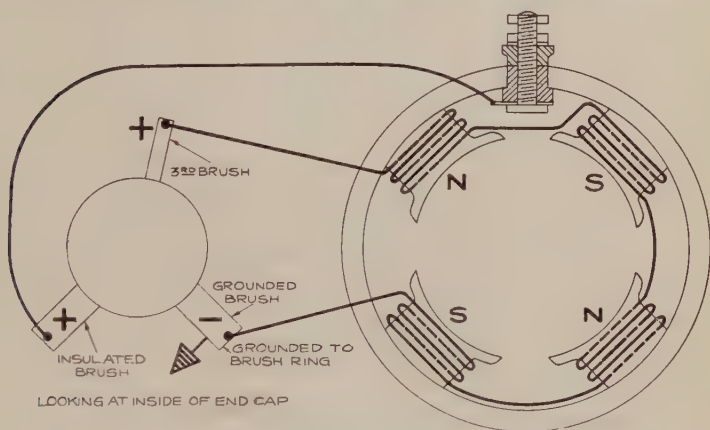

FIGURE 6.
BRUSHES. There are three carbon brushes, as shown in Figures 5 and 6. The two lower ones carry the charging current out of and into the armature. The upper one is called the "third" brush, and connects to one end of the field as shown in Figure 6. The two lower brushes are $\frac{3}{8}$ inch wide, $\frac{3}{4}$ inch long, and $\frac{13}{16}$ inch high. The third brush is $\frac{3}{16}$ inch wide, $\frac{3}{4}$ inch long, and $\frac{13}{16}$ inch high. The most important work on the brushes is to keep the surface which bears on the commutator perfectly clean, and rounded off so that every point of the brush surface touches the commutator. This may be done by inserting a piece of fine sandpaper (never use emery cloth) between the brush and the commutator, with the sanded side toward the brush. Then move sandpaper back and
REGULATION OF CHARGING CURRENT. The strength of the current delivered by the generator is regulated by the "Third Brush" system. The field winding is connected between the grounded main brush and the small "third" brush (shown in Figure 6) which, as already described, bears on the upper part of the commutator. The position of this brush may be changed so that the brush may be brought nearer to or farther from
5. When the rear end housing is loose it may be pulled back as far as the wires which are fastened to the brushes will allow. To remove the housing entirely, disconnect the wires from the brushes, being careful to note the connections. Figure 6 shows the proper connections.